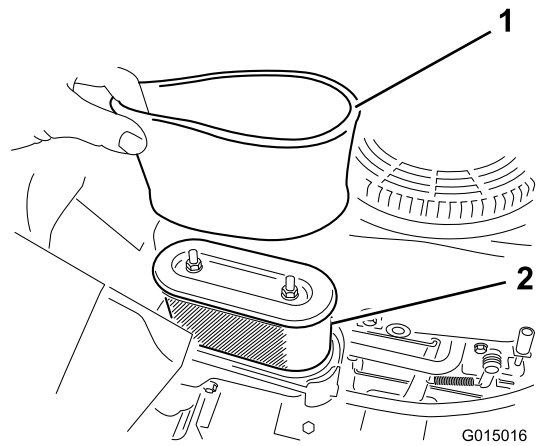

Figure 27
5. Carefully remove the foam and paper filter elements from the air cleaner housing (Figure 27).
1. Install the foam filter onto the paper filter (Figure 27).